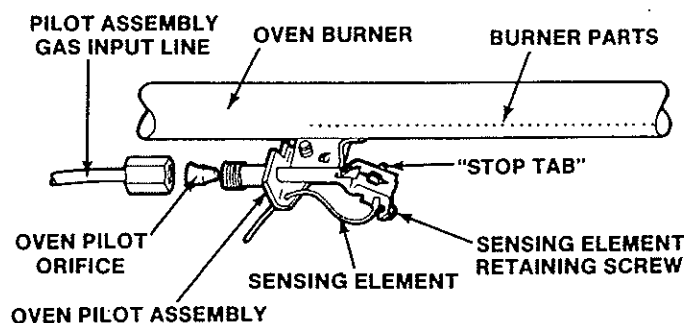

Figure 10
When replacing the safety valve's sensing element, be sure it has been inserted through both holes and is resting against the "stop-tab" of the oven pilot assembly before tightening the retaining screw, (Figure 10).
- f. using a small screwdriver, (inserted through the hole in the back of the pilot assembly), pop the orifice out of the pilot assembly (Figure 10).